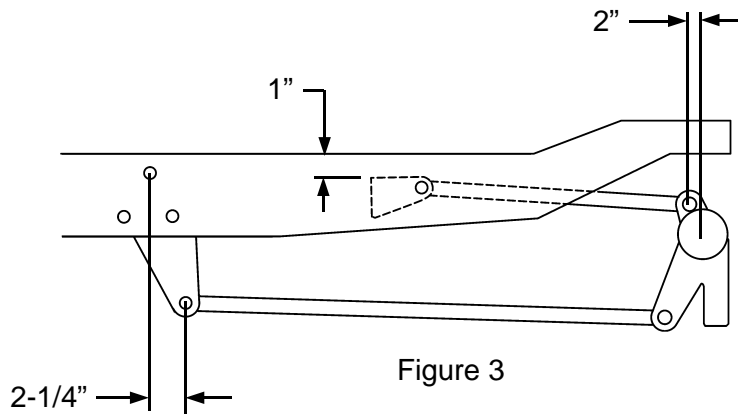
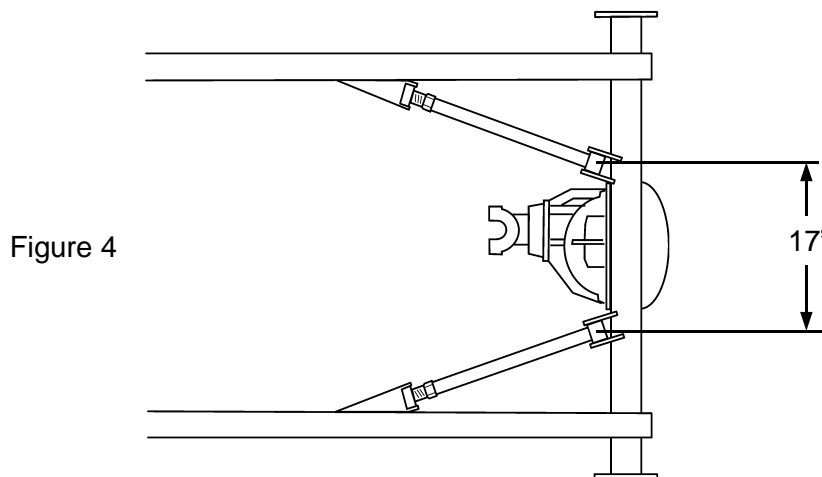

Figure 3
Figure 4
2. Install the Lower Frame Brackets onto the underside of the frame at the 2-1/4" dimension from the top running board bracket hole. Tack weld in place. See Figure 3. Note that this kit is designed for a fully boxed frame. Frame should be boxed at least 6" forward of the Lower Mounts and all the way to the rear. Position the axle housing in the frame using the Lower Link Bars with the adjusters to the front and set the pinion angle to match the angle of the engine which should place the rear coil-over mounts vertical. Use the 5/8-18 bolts and lock nuts supplied.
3. Assemble the Upper Link Bars with the adjusters to the front onto the Front Brackets and Axle Tabs. Position the Tabs on the axle housing with the bushing centers approximately 2" forward of the axle center as shown in Figure 3 and 17" apart as shown in Figure 4. The Front Brackets should be approx. 1" below the top of the frame as shown in Figure 3. Tack weld in place. Check for floor pan clearance before final welding. If all is in place correctly, remove the Link Bars and finish weld all brackets. Final welding should be performed by a qualified welder.